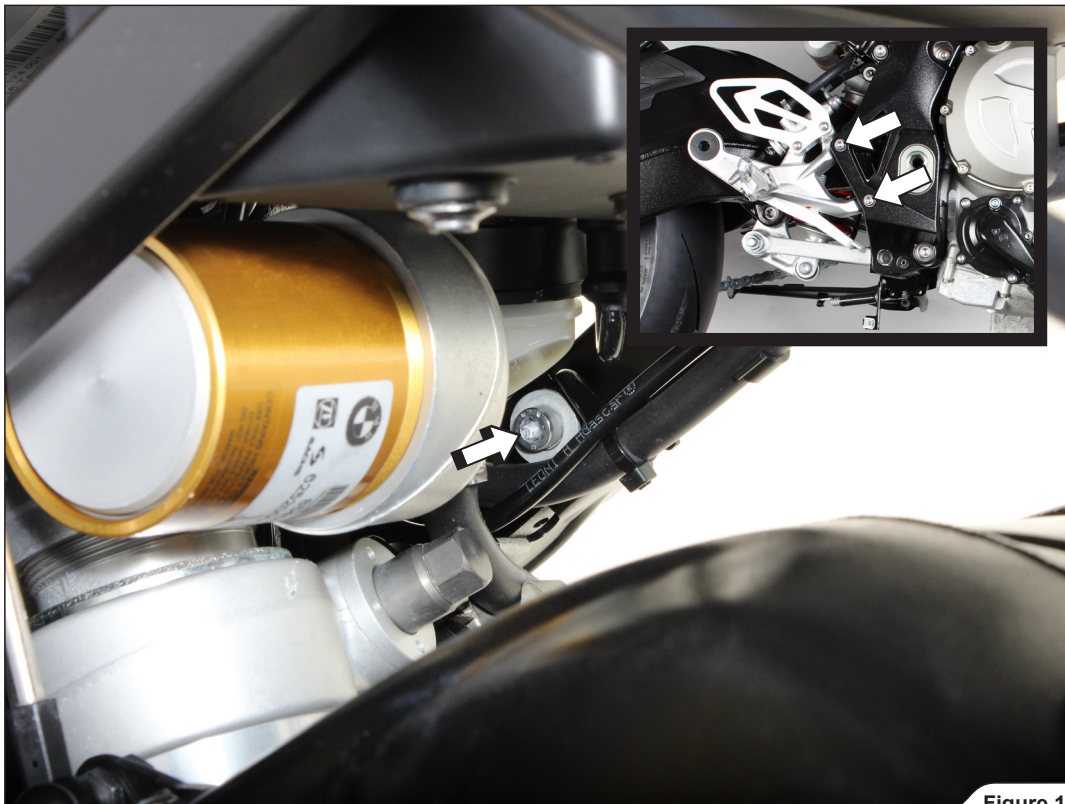

Figure 13
10. Unscrew the right foot peg and rear brake reservoir's bracket (Figure 13).